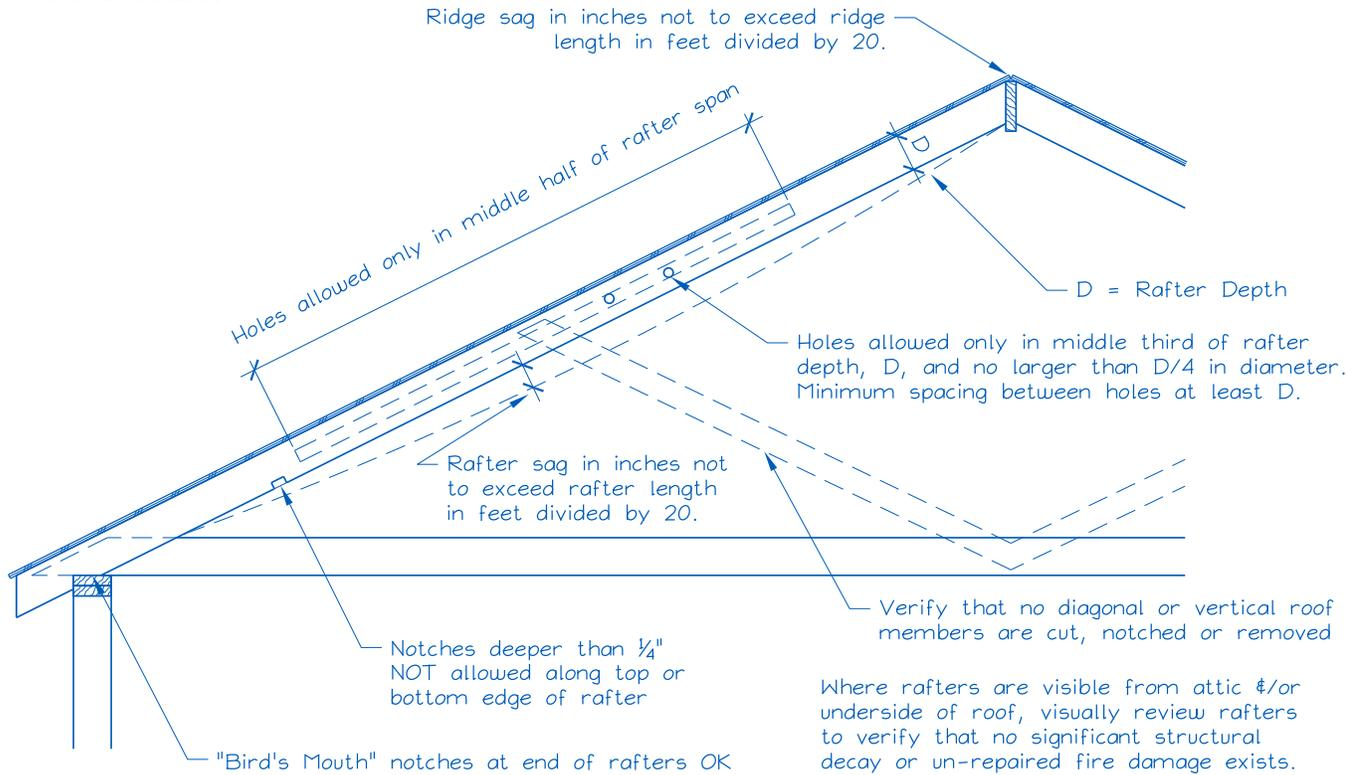

Figure 1. Roof Visual Structural Review (Contractor’s Site Audit) of Existing Conditions.
- 2) Does the roof structure *the roof structure complies with structural building code requirements*, without signs of alterations or significant structural deterioration or sagging, as illustrated in Figure 1? Y N